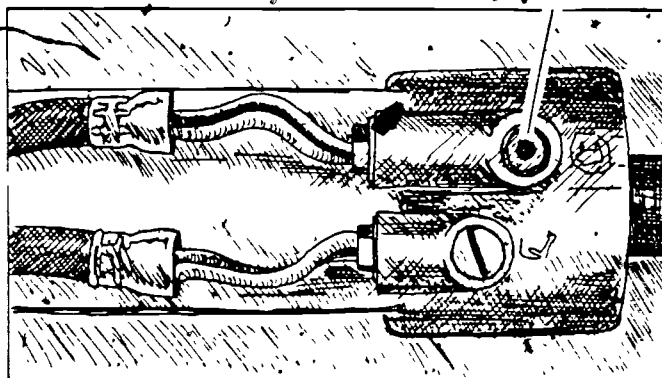

FIGURE 4
- b. Place cylinder in a horizontal position with hose ports facing up (Figure 4)
- c. Remove "up" bleed screw and O ring seal from no. 1 port (Figure 4)